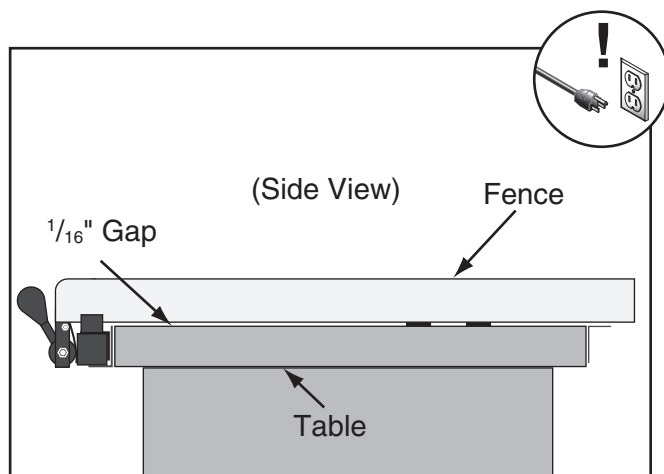

Figure 116. Gap between fence and table approximately $\frac{1}{16}$ " from to back.
- If gap is approximately $\frac{1}{16}$ " and even from front of table to back (see **Figure 116**), then no additional adjustments are necessary. Proceed to **Clamping Pressure and Parallelism**.
4. Loosen rail mounting bolts and adjust rails as needed until fence rides smoothly, gap is approximately $\frac{1}{16}$ ", and is even from front to back (see **Figure 116**).
- If fence drags across table, then loosen rail mounting bolts and adjust rails just enough so gap between fence and table is even from front to back (see **Figure 116**). Tighten rail mounting bolts.